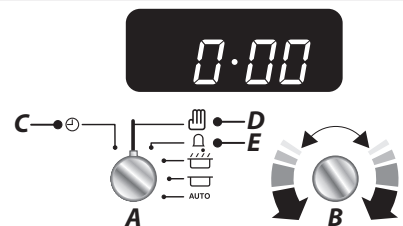

Fig. 3.4
1. Turn the **Adjusting (B)** knob counter-clockwise or clockwise (**Fig. 3.4**).
2. Turn the **Timer (A)** knob to the **Clock (C)** or the **Minute Minder (E)** setting, and back to the **Manual (D)** mode, to return to normal cooking (**Fig. 3.4**).